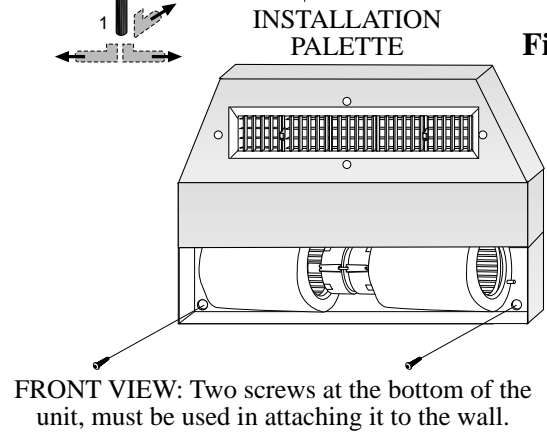

Fig. 4
- Attach the bottom of the unit using two screws to the wall. (See Fig. 4).